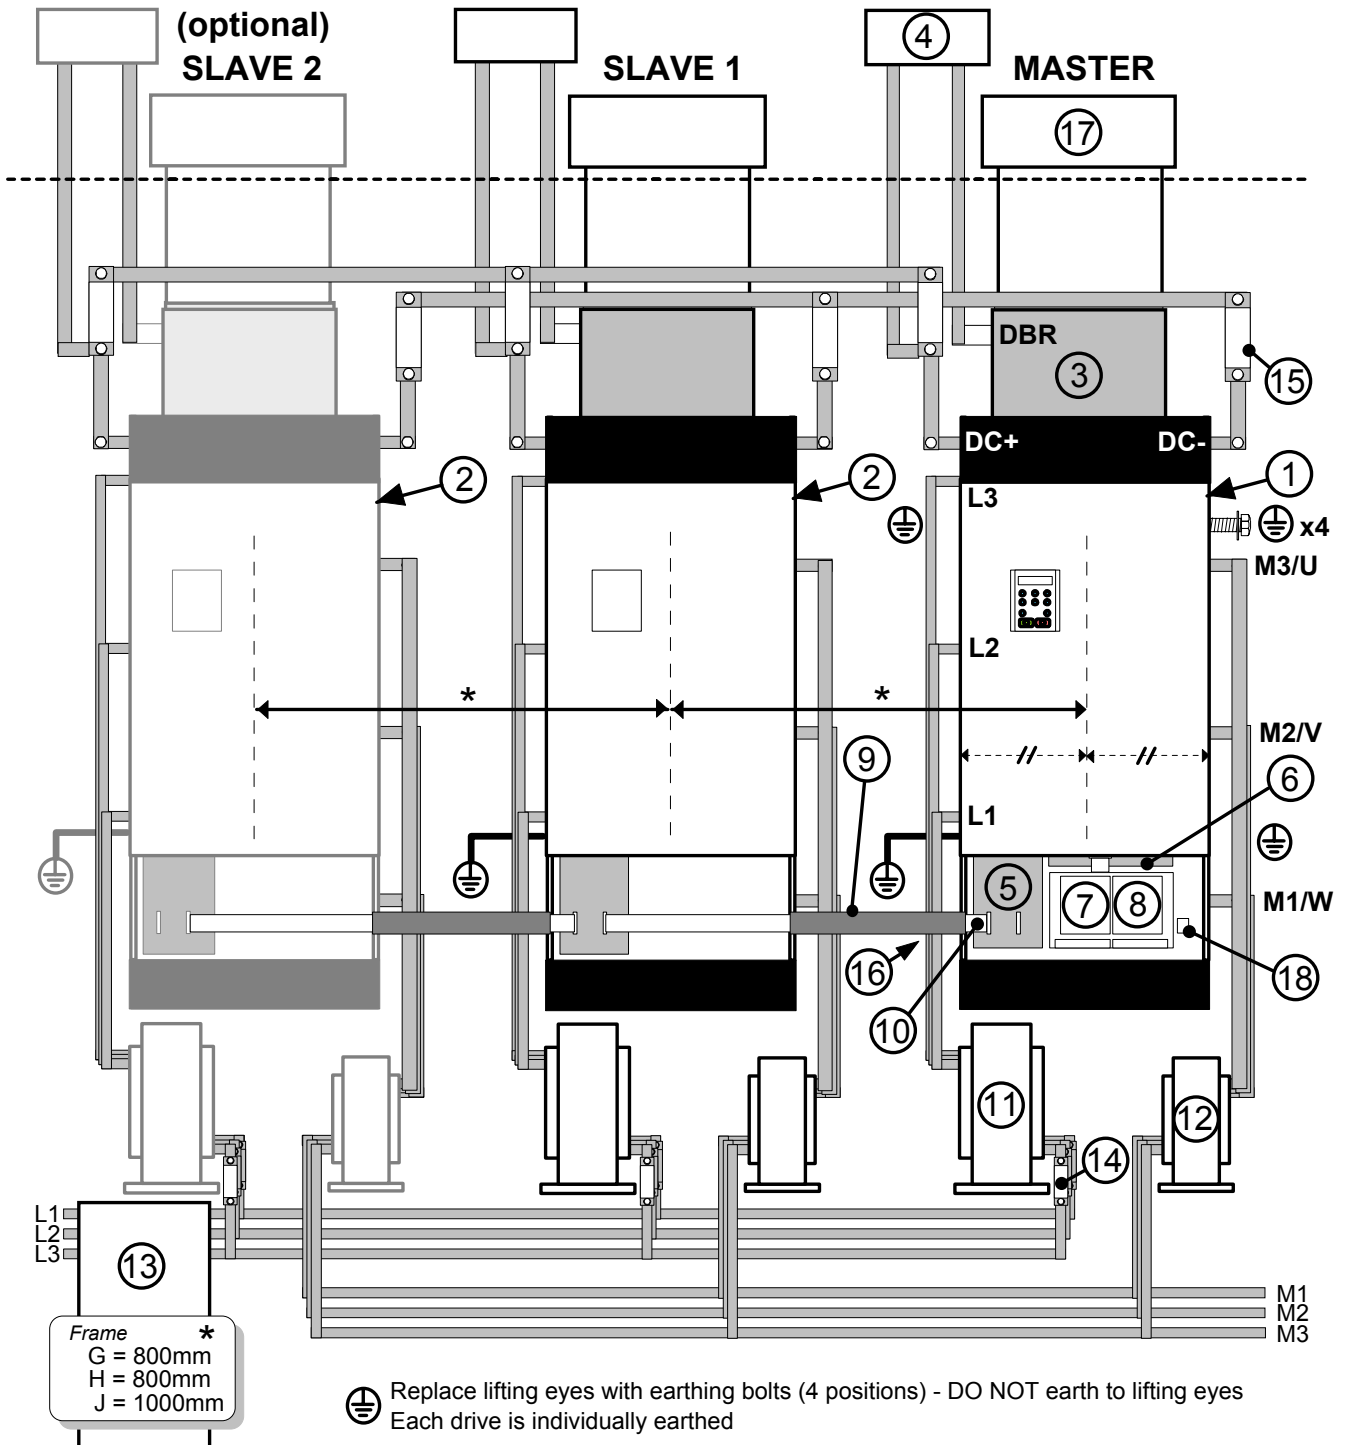

Figure 3-2 Wiring Scheme for 690+ Frame K
Mount the drives vertically on a flat surface inside the cubicle with the correct spacing between the drives. Refer to Figure 3-2 Wiring Scheme for 690+ Frame K, page 3-7 for the spacing. The correct spacing is required to fit the Cable Tray(s).
- For a typical layout refer to Figure 3-2 Wiring Scheme for 690+ Frame K, page 3-7.